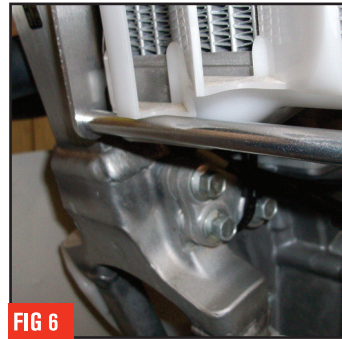

FIG 6
**11** Using 1 of the supplied 6x16mm bolts, install the bottom support rod on the left big brace half. **(Figure 6)**